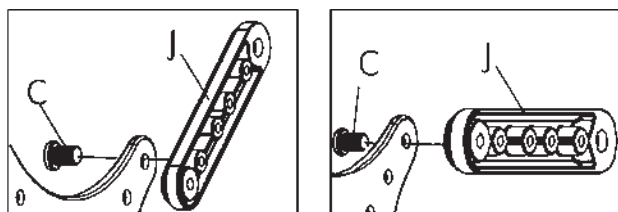

Fig. 6
If your television is larger than VESA 100, install the extenders (J) on the TV plate with the supplied bolts (C) before installing the plate on the television. The position of the extenders depends on the size and position of the mounting holes in your TV (Figs 6 and 7).